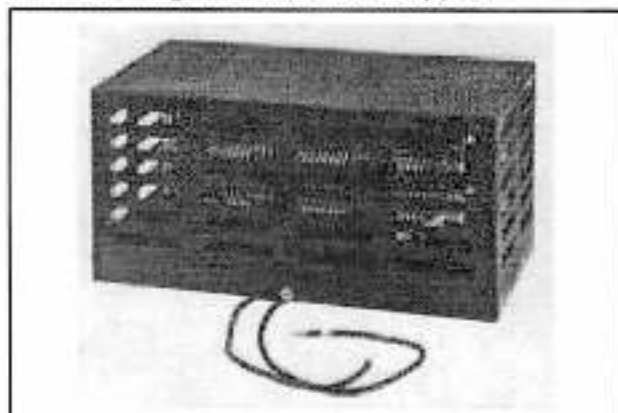
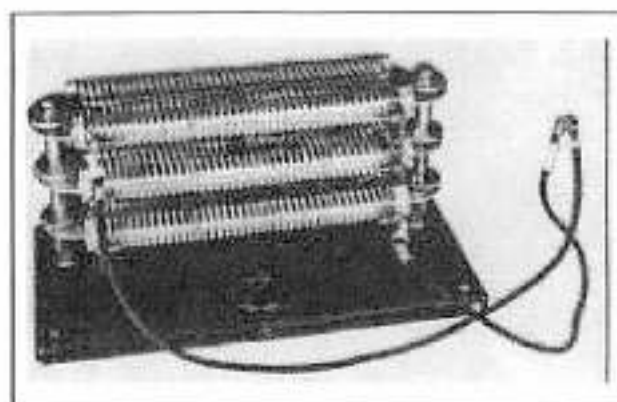

Figure 1 – Three Phase MinPak Plus Dynamic Braking Kit
Figure 2 – Three Phase FlexPak Plus Dynamic Braking Kit
The standard three phase FlexPak Plus and MinPak Plus controllers allow a drive motor to coast to rest after the stop switch is pressed. Optionally, a user may install a Dynamic Braking kit. (Refer to Figure 1 and Figure 2) Dynamic Braking is not a mechanical holding brake. It will not hold the shaft in place nor will it prevent the motor from turning once motion has stopped.
1. Connect leads DB1 and DB2/A2 to resistors (Refer to Figures 2, 6 & 7).